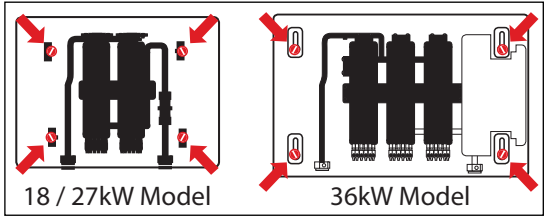

Figure 2 - Water Heater Mounting Points
- Position the unit on the mounting surface. Ensure the unit is level. Mount the unit to the wall with four (4) screws of at least one (1) inch (25.4mm) in length at the marked points. See Figure 2.